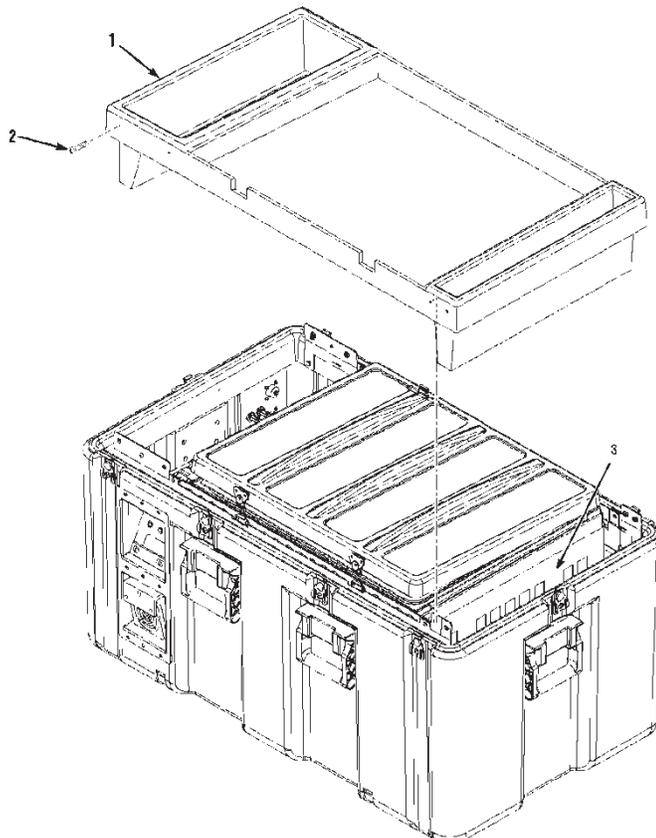

Figure 59. Battery Terminal Location
1. To check for battery terminal corrosion, remove the contents from the cover panel storage bins (item 1, Figure 59).
2. Remove eight screws (item 2) and the cover panel (item 1).
3. The battery terminals (item 3) are visible after the cover panel is removed.